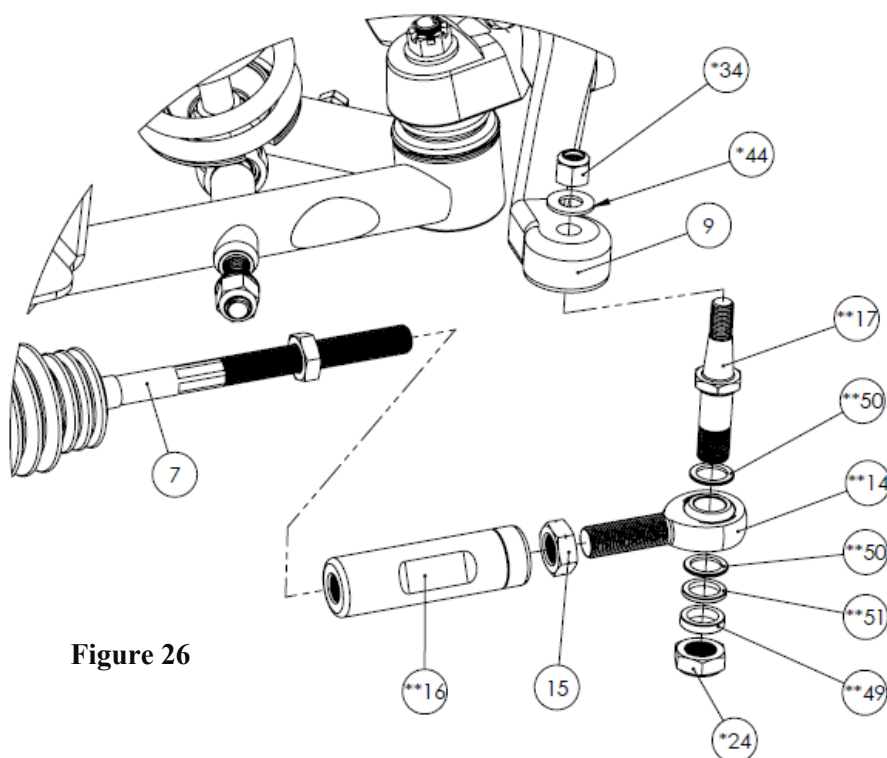

Figure 26
26. Install the left hand threaded 5/8" jam nut (#15) onto left hand threaded 5/8" rod end (#14). Thread the tie rod sleeves onto rod end until threads bottom out. **(Figure 26)**
28. This suspension system includes (2) thick, (2) medium, and (4) thin spacers for the tie rod kit. Install (1) thin spacer on top of rod end with the remaining spacers on the bottom of the rod end, followed by the nut. Tighten stud (#17) to spindle to 45 lb. ft. Further bump steer adjustments can be made once final ride height is set. Final tie rod adjustment/Toe should be set by a reputable alignment shop.